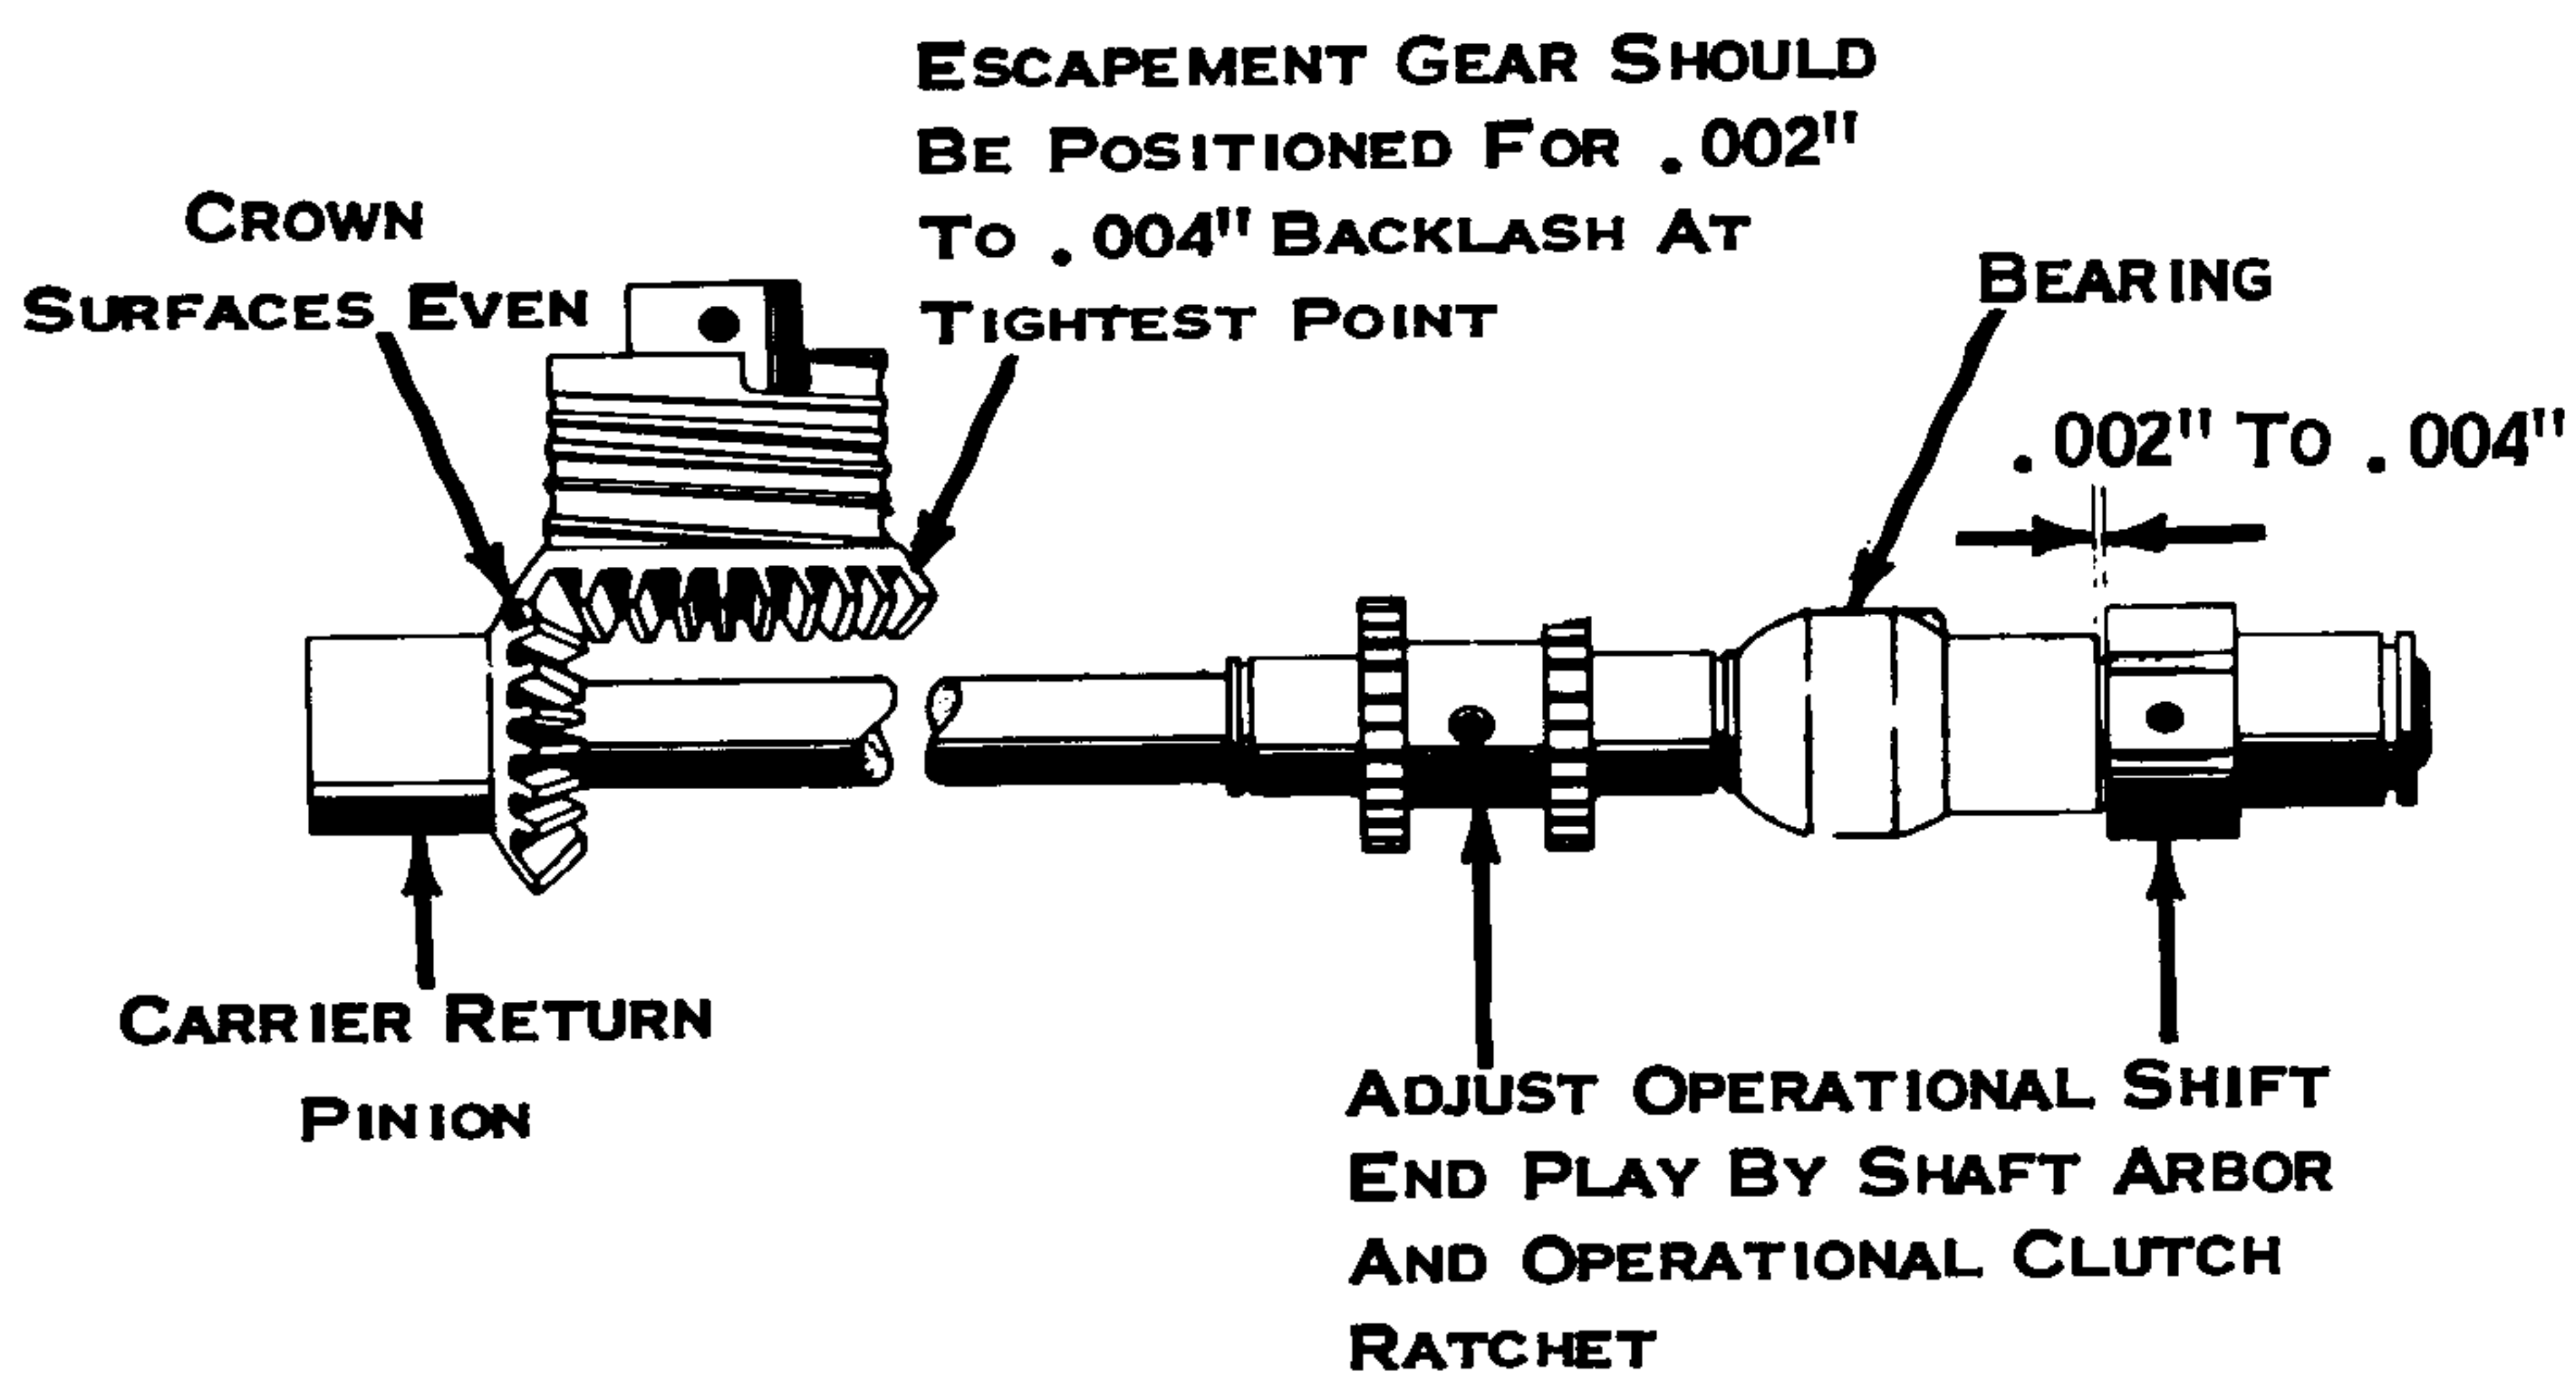

Figure 115. Gear Mesh
1. **Gear Mesh** (Fig. 115) - The operational shaft must be adjusted laterally so that the crown surface of the escapement cord drum and the carrier return pinion are even. The position of the shaft is controlled by the operational cam ratchet and the shift clutch arbor on 11" machines. On 15" machines the shaft is controlled by a collar on the R.H. side. **BE SURE** to maintain .002" to .004" end play in the operational shaft when making this adjustment. The escapement